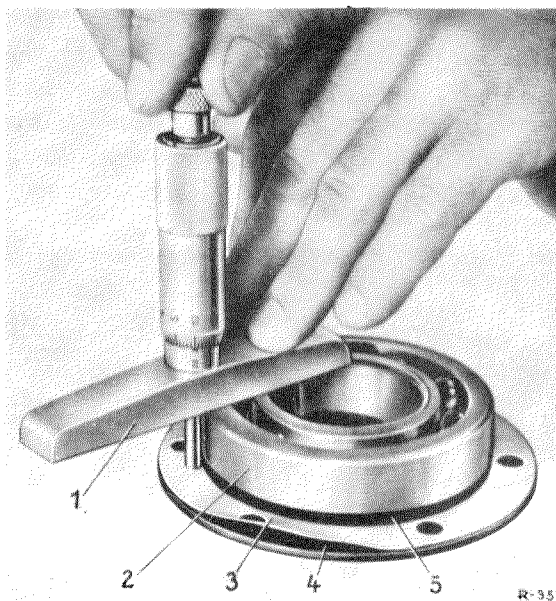

Fig. 35 — 5/7
In order to check, place the seal (3) and the annular grooved bearing (2) on the seal retainer and use a depth gage or a micrometer depth gage to measure the distance between the outer race of the annular grooved bearing and the separating surface of the seal retainer (Fig. 35 — 5/7).